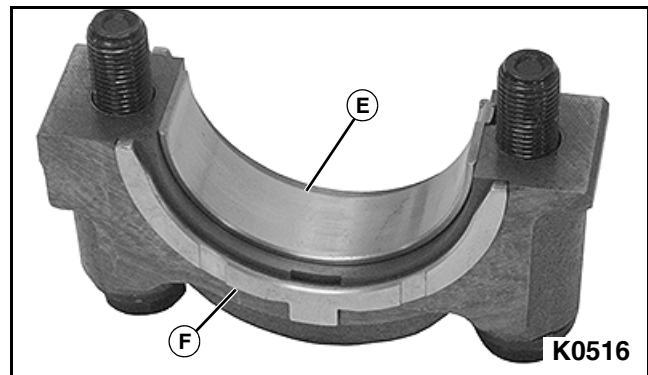

Figure 3-237
3. Install the lower bearing (E) by fitting with the bearing cap lock groove. **See Figure 3-237.**
4. Install the lower thrust washers (F) to the No. 3 bearing cap, with the oil grooves facing outward.